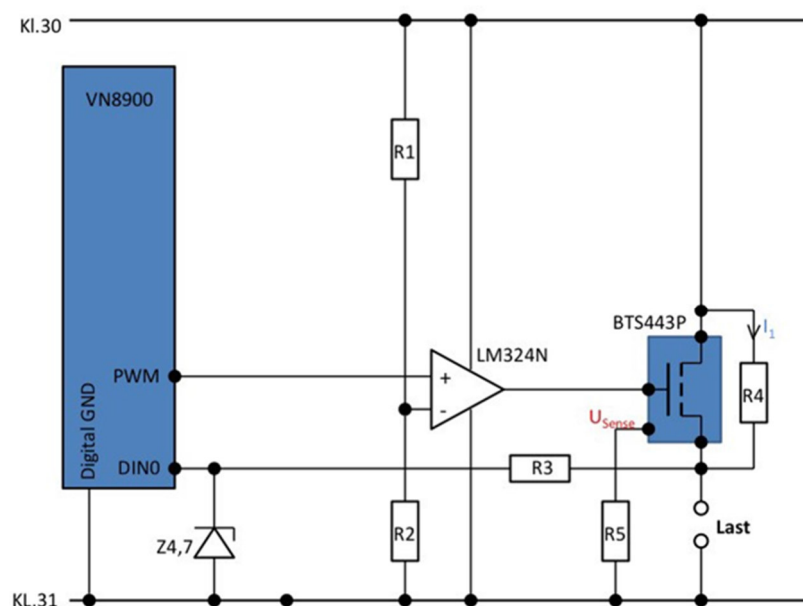

Figure 1: Electric circuit of the seat heating's control
Figure 1 shows the control circuit of the heating resistor as well as the VN8900 that you already know. Please search for information concerning the power switch used here, as well as for the operation amplifier.
d) Please highlight (in colours) the different voltage levels in figure 1.
h) Please specify the calculation formula for $R5 = f(V_{bb}, I_{Last}, K)$ referring to figure 1.